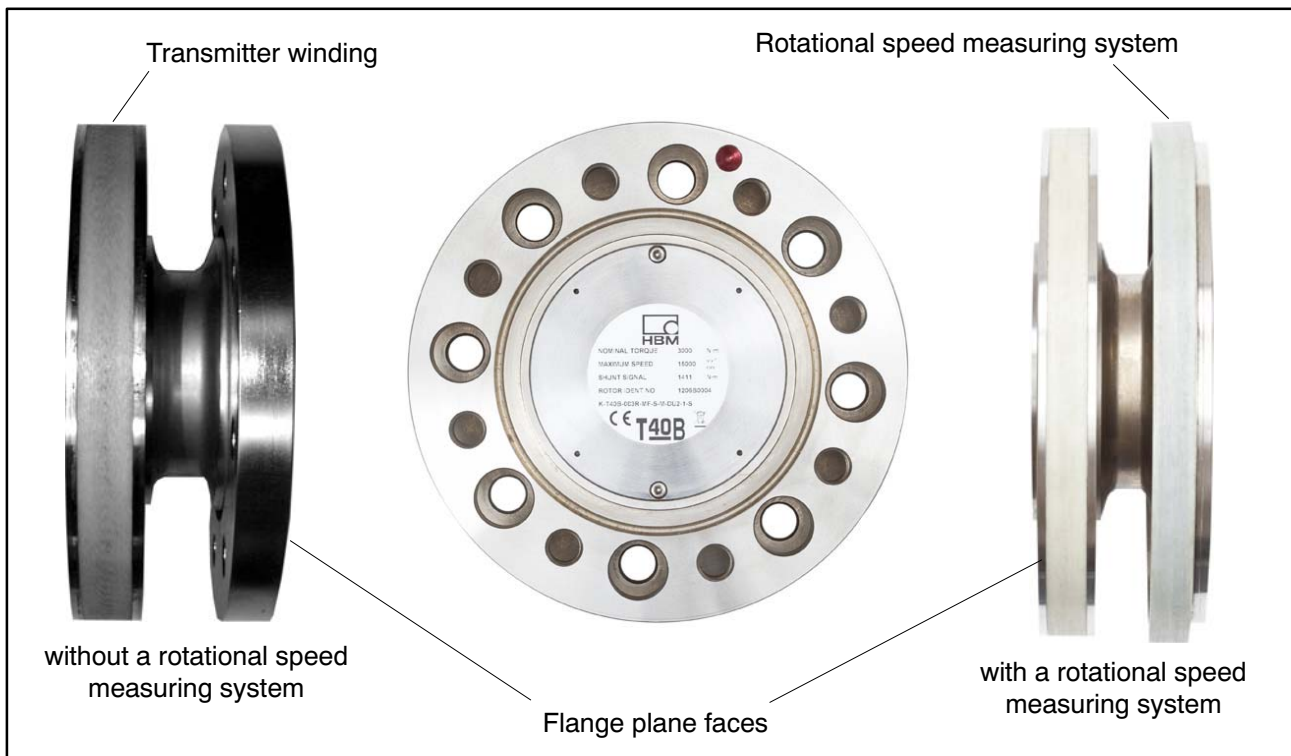

Fig. 4.1: Bolted rotor connection
2. For the bolted rotor connection (see Fig. 4.1), use six or eight DIN EN ISO 4762 hexagon socket screws of the property class stated in Table 4.1, in a suitable length (dependent on the connection geometry, see Table 4.1 on page 18).